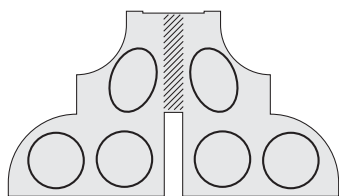

Fig. 1: Distance rings on pedestal wall 1
Step 2: Glue six distance rings on the front of pedestal wall 1 [A13, sheet 5] according to fig. 1. The hatched area has to remain open. Let dry well and press down several times while the glue sets. Now cover the upper edges of the distance rings with plenty of glue and lay pedestal wall 2 [A14, sheet 6] on it, so that the edges of both walls are exactly above one another. Tap the resulting pedestal half on your work surface with its lower edge so that both wall sides come to equal height. Check again that none of the sides project beyond the other anywhere and lay the whole piece flat with wall 2 facing down, so that the liquid glue can run towards the new bonding area and not away from it. Use a book or similar to weigh it down.